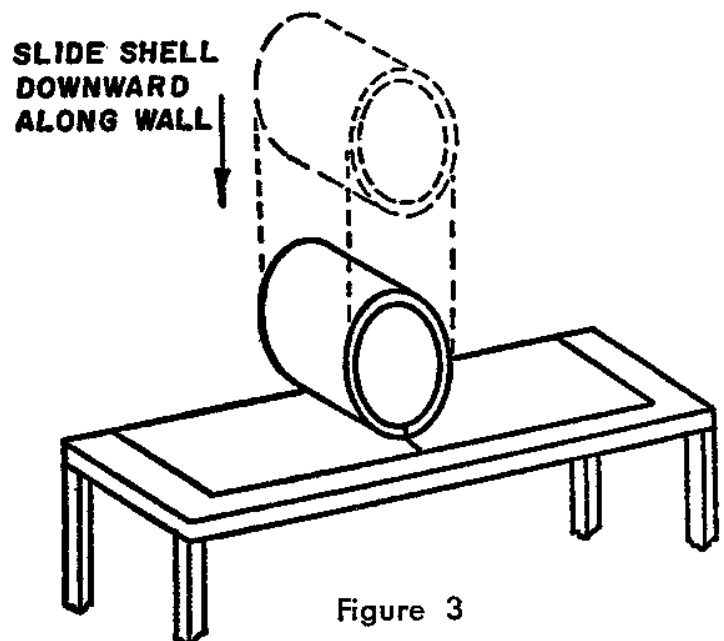

Figure 3
4. After cement has set according to directions on can, place the plastic sheet with adhesive side up on a flat surface. A work bench or table pushed against a bare wall will do fine. Push the edge of the plastic sheet against the wall. Now slide the shell down along the wall until the shell makes contact with the plastic. (See Fig. 3.) Be sure the pencil marks line up. This step is most important in obtaining perfect alignment.